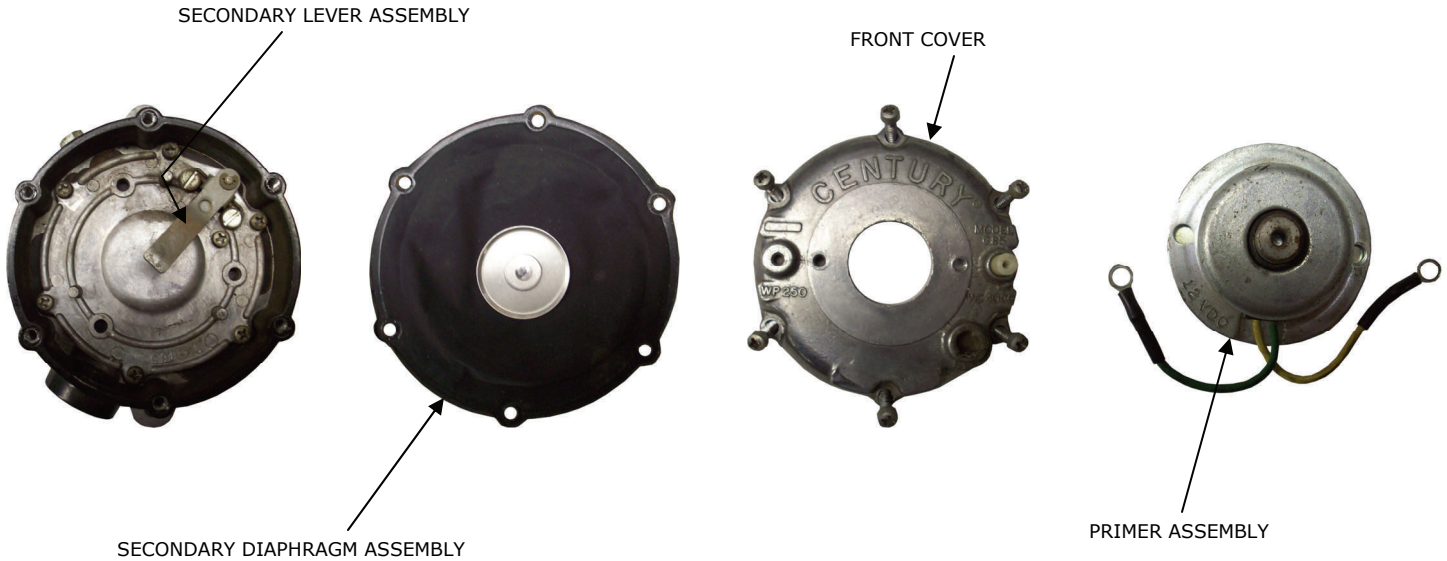

Figure 4
1. Remove primer and front cover. (Figure 4)
2. Remove secondary diaphragm assembly. (Figure 4)